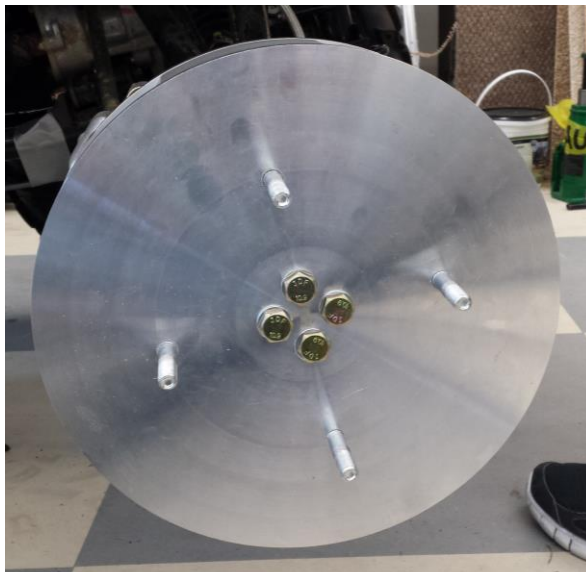

Figure 7 Outside plate
9. (Figure 7) Place outer plate and attach with M10x1.25 x 70mm bolts. Torque bolts to 35 lbf ft with 17 mm socket.